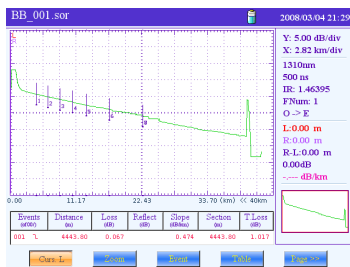

Figure 9.1
- When measuring trace is shown in Figure 9.1,